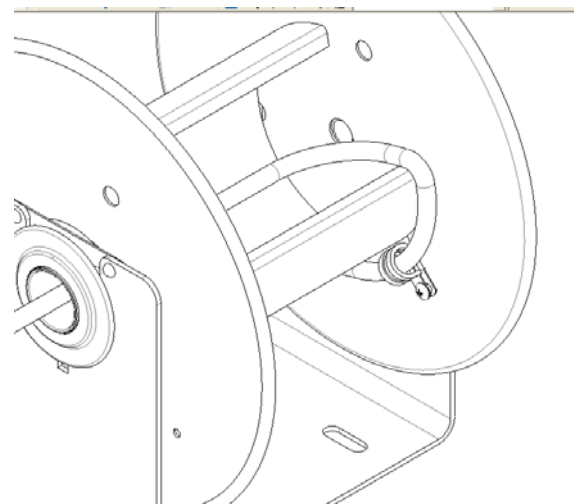

FIGURE 1.1
- Use one of the enclosed clamps to secure the cable/hose to the disc on the handle side. **(See Fig 1.1)** The sizes of the clamps, Coxreels® part numbers, and correlating cable/hose sizes are shown. **(Chart 1.0)**